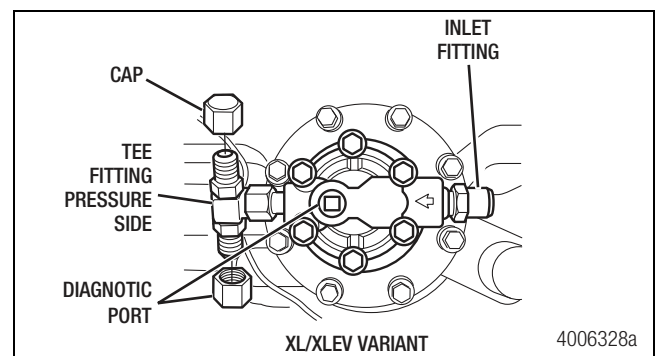
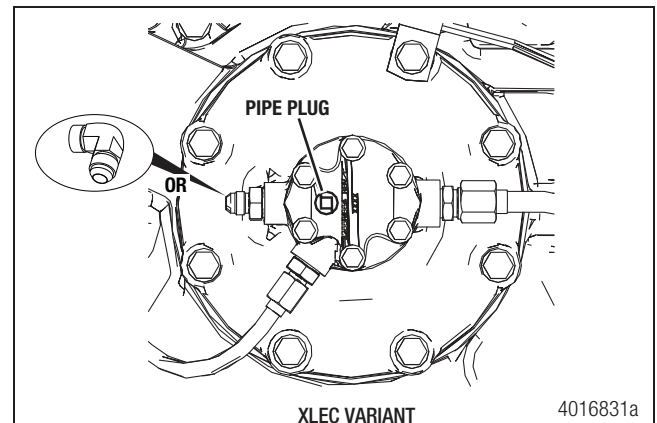

Figure 11.6
Figure 11.7
1. Install a pressure gauge to the diagnostic port using a suitable adapter. For XL/XLEV use the diagnostic port shown in Figure 11.6. For XLEC use the diagnostic port shown in Figure 11.7.
3. Check the oil pump pressure to verify it has reached 10 psi (0.69 bar) for XLEC (Figure 11.7) or 3 psi (0.21 bar) for XL/XLEV (Figure 11.6).